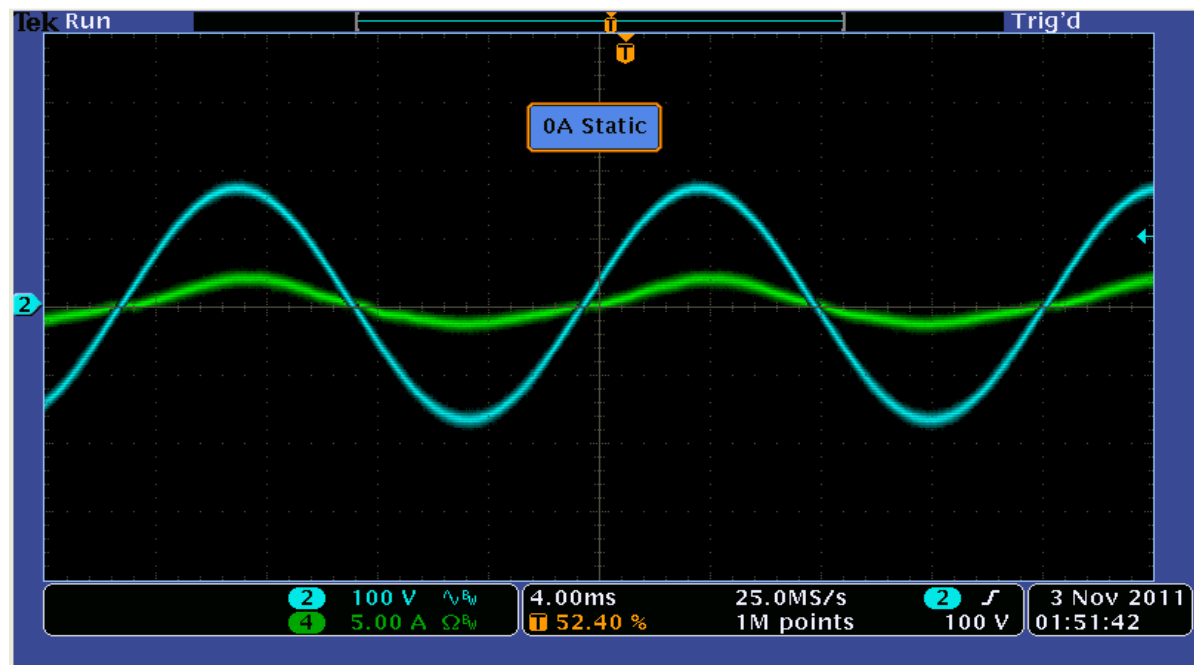

Figure 9 - Grid-Tie Test 1, Ch2: Grid Voltage, Ch4: Solar Inverter Output Current, MPPT Panel Power 165W
- For this grid-tie test, the PV panel emulator is set up to deliver 165W of power. Therefore, the Inverter will deliver about 165W of load power at 120V/60Hz and so the AC source output power will drop from initial 290W to about 125W. The AC source output will thus be 120Vrms/ 60Hz at a load current of about 1.04A rms. The waveforms in Figure 9 below show the grid voltage and the inverter output current under this condition.